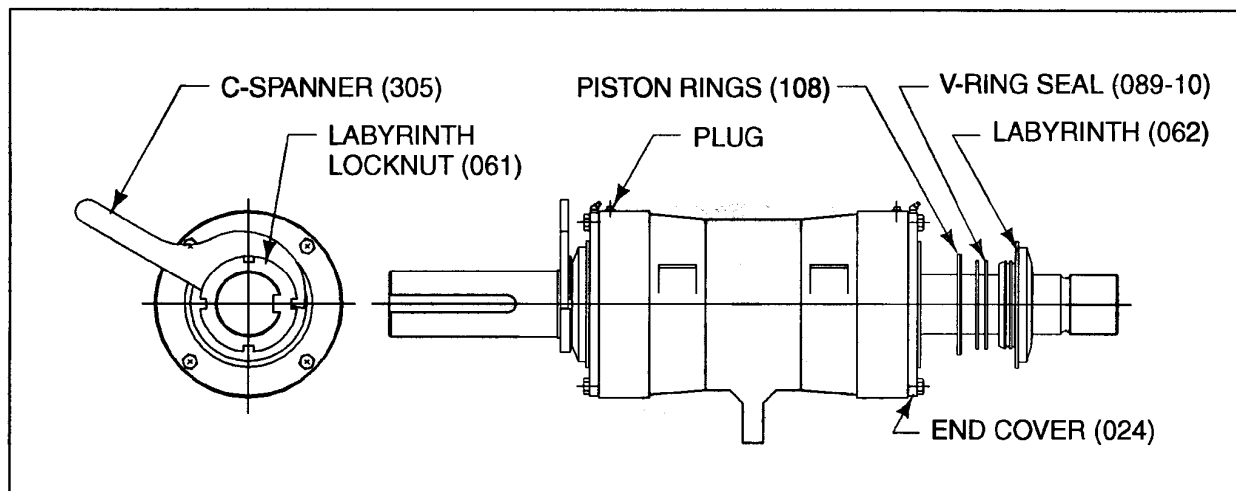

Figure 2-8 • Fitting Labyrinths, Piston Rings and Locknuts
#### BEARING ASSEMBLY TYPE "-10" – FITTING LABYRINTHS, V-RINGS, PISTON RINGS AND LOCKNUT (Figure 2-8)
5. Fit LABYRINTH LOCKNUT (061) to drive end and tighten with C-SPANNER (305). **NOTE – Labyrinth locknut threads are left handed.**
**BEARING ASSEMBLY – FITTING LABYRINTHS, PISTON RINGS, AND LOCKNUT (Figure 2-8)**
1. Smear PISTON RINGS (108) with bearing grease and fit two rings to the grooves of each LABYRINTH (062). Position ring gaps opposite each other.
Pumps supplied after November 1, 1990 may have 'hook' style piston rings supplied (see Figure 2-8). These are hooked together in Step 1 below and do not require compression as described in Step 3 below.